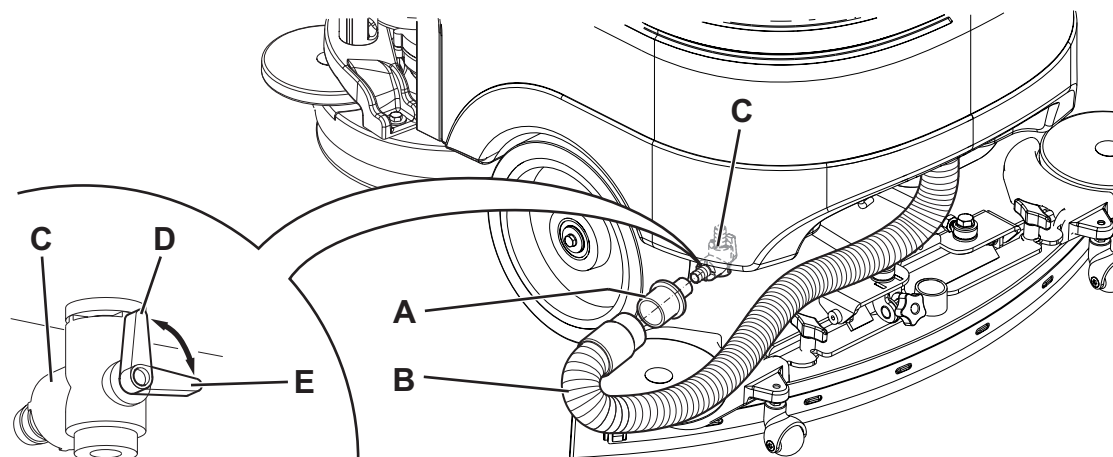

Figure 4
8. Remove the adapter (28) from its housing inside the battery compartment.
9. Install the adapter (A, Fig. 4) on the squeegee vacuum hose (B), then fasten it to the drain valve (C).
10. Turn the ignition key (58) to "I" and turn on the vacuum system with the push-button (63).
11. Open the drain valve (C) to drain the tank (22).